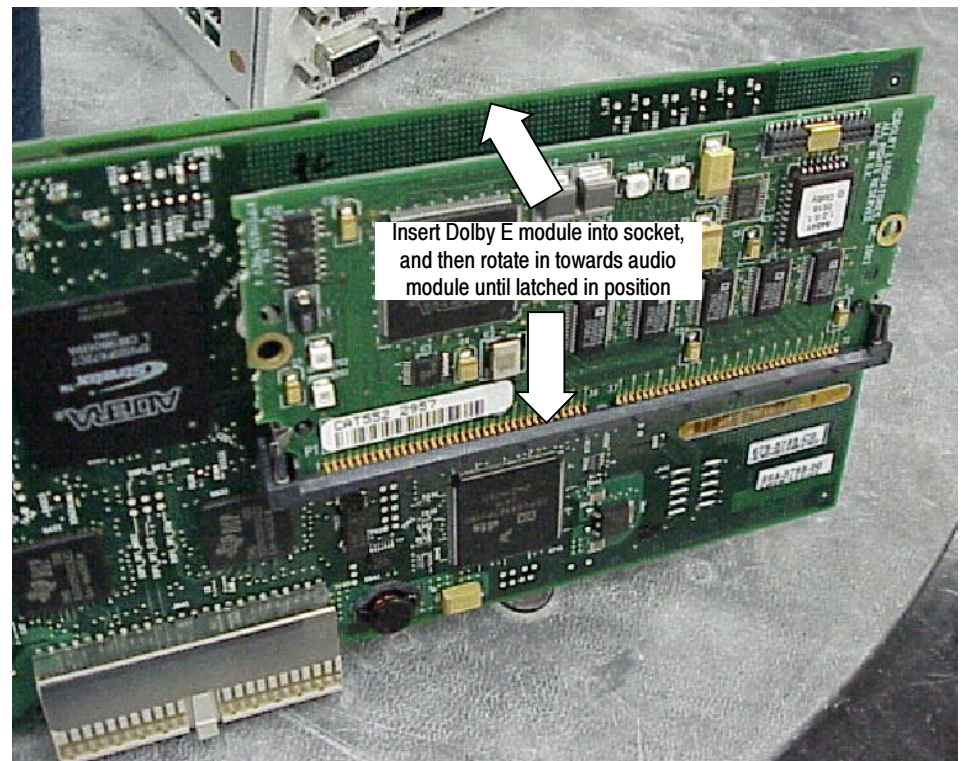

Figure 12: Installing the Dolby E module
4. **Option DDE and DPEL only.** Install the Dolby E module supplied in this kit into J631 of the new audio module. Fully insert the connector on the Dolby E module into the socket on the audio module, and then rotate the Dolby E module in towards the audio module until the Dolby E module latches into position. See Figure 12.